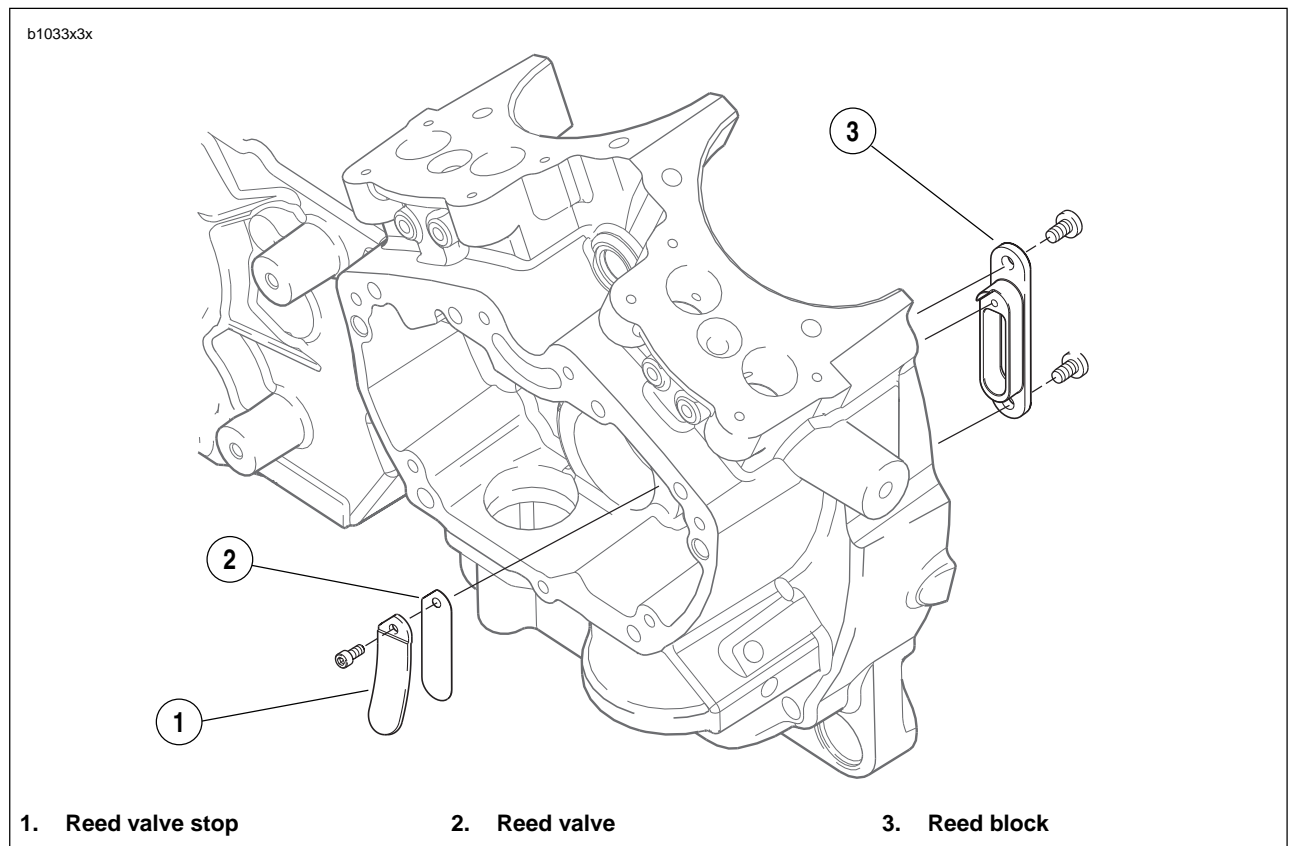
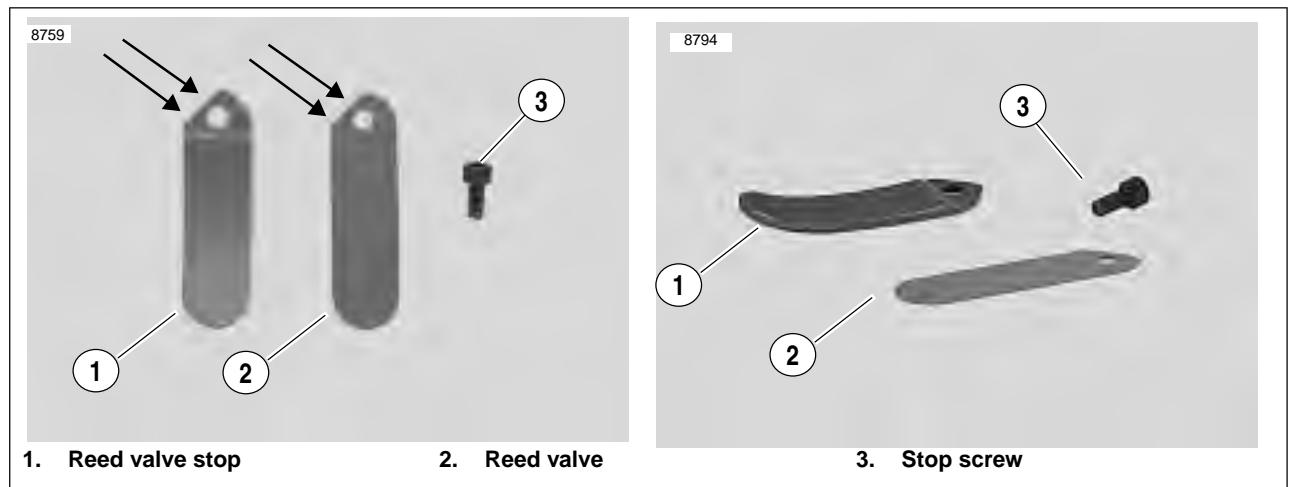

Figure 3-116. Reed Valve Assembly
Figure 3-117. Reed Valve Stop and Reed Valve
- See *Figure 3-117*. The reed valve (2) is what moves out with the downstroke and in with the upstroke of the pistons. The reed valve stop (1) limits the movement the reed valve (2). See **3.12 CRANKCASE BREATHING SYSTEM**.
See *Figure 3-117*. When replacing the reed valve it is extremely important to ensure that both edges of the reed valve stop (1) and the reed valve (2) are properly aligned to prevent premature failure of the reed valve. When replacing the reed valve it is not necessary to replace the reed block. See *Figure 3-116*.